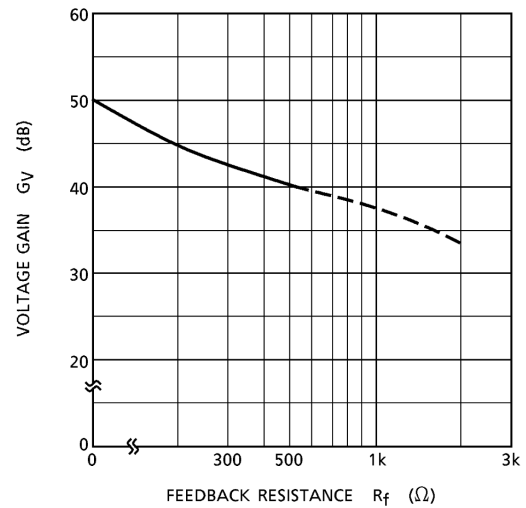

Fig.2
The voltage gain is reduced when Rf is increased. (Fig.2) With the voltage gain reduced, since (1) the oscillation stability is reduced, and (2) the pop noise changes when V_{CC} is set to on, refer to the items 3 and 4.